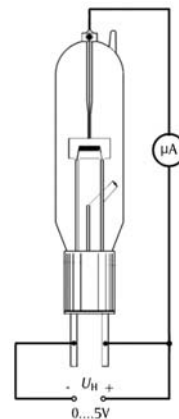

Fig. 2a Circuit set-up for demonstrating the Edison effect using a multimeter
- Connect the circuit as shown in Fig. 2a/b.